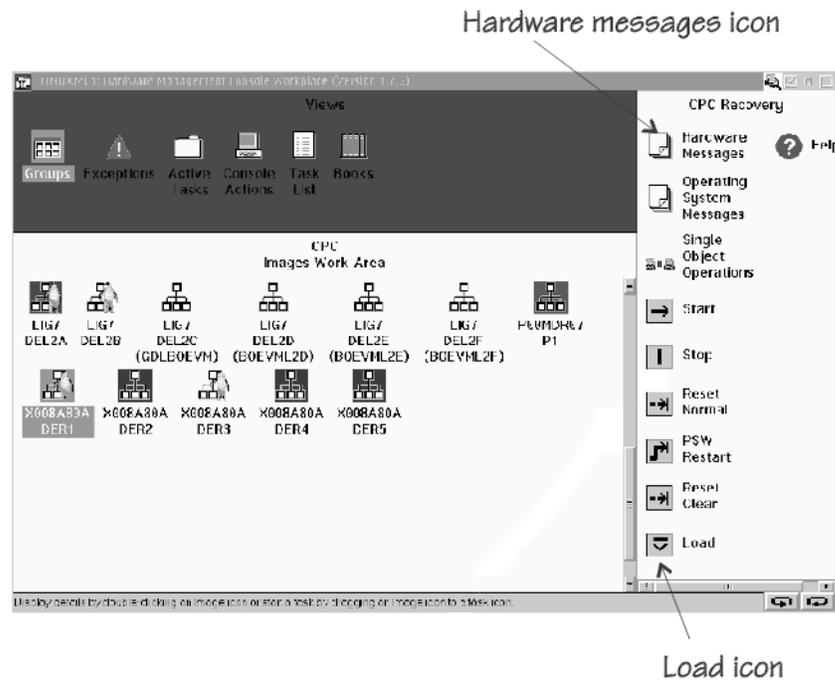

Figure 58. CPC Images Work Area on the HMC
- Click the Images icon in the “Groups Work Area” to display the “CPC Images Work Area” with all defined images (Figure 58).